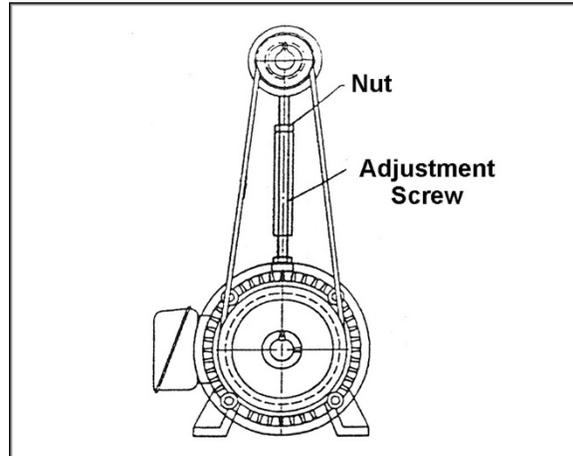

Figure 11
2. Open back panels to expose the motor, pulleys, and belts, as shown in Figure 10. Loosen hex nut (Fig. 11) and turn the adjustment screw as needed to adjust the tension. Proper tension is achieved when there is a small amount of deflection by using moderate finger pressure on the belt midway between the pulleys.
3. Tighten hex nut (Fig. 11) and replace panels.